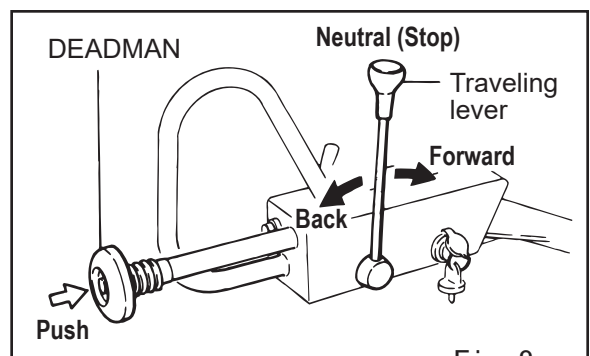

Fig. 8
- With travel lever placed in reverse, push DEADMAN to verify that travel lever returns to neutral position. (Fig.8)
- Pushing travel lever slightly forward, causes the roller to travel forward at micro speed. Pushing it further, increases the travel speed. Depending on how you move the travel lever, travel speed can be adjusted steplessly between 0 and 3 km/h (for both forward and reverse). Pulling the lever back causes the roller to travel backward. (Fig.8)